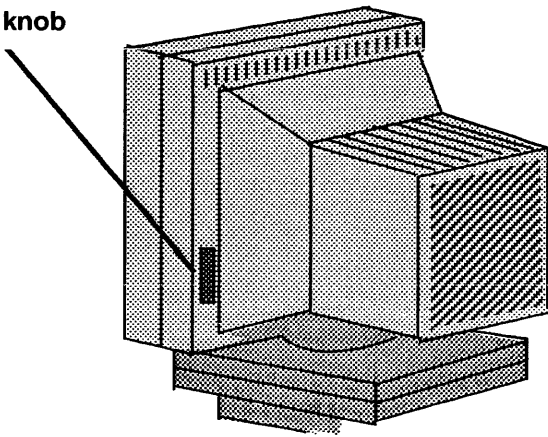

Figure 34. Adjusting the Brightness Control Knob
- Swivel the display and tilt the screen for easy viewing. To adjust the screen intensity, turn the brightness control knob, located behind the screen on the right side (Figure 34).